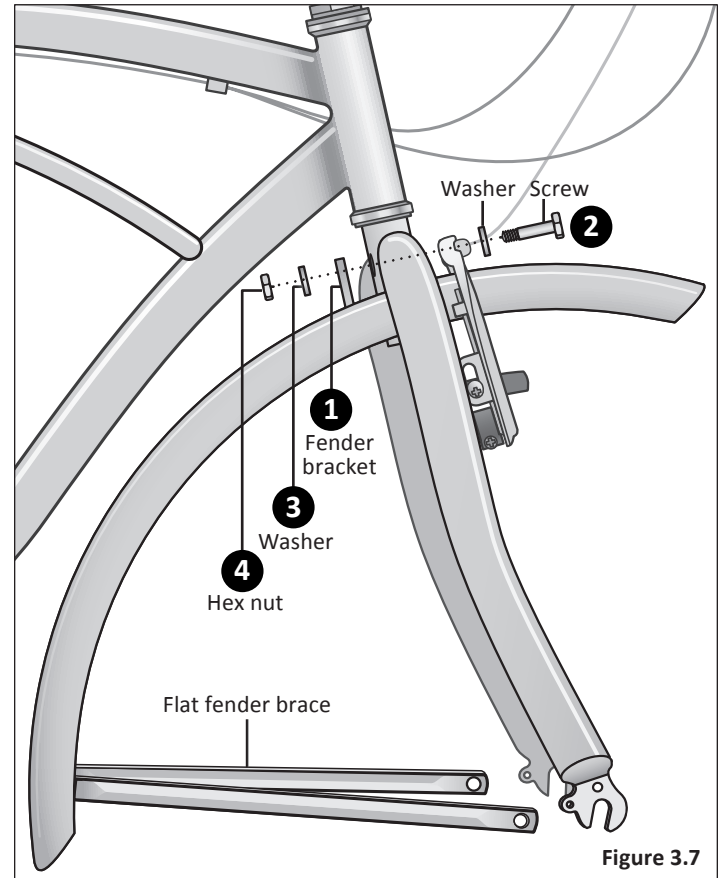

Figure 3.7
- 1 Position the front fender so the fender bracket is on the inside of the frame. The fender is attached to the fork crown. Align the hole in the bracket to the hole in the fork crown. **Figure 3.7**